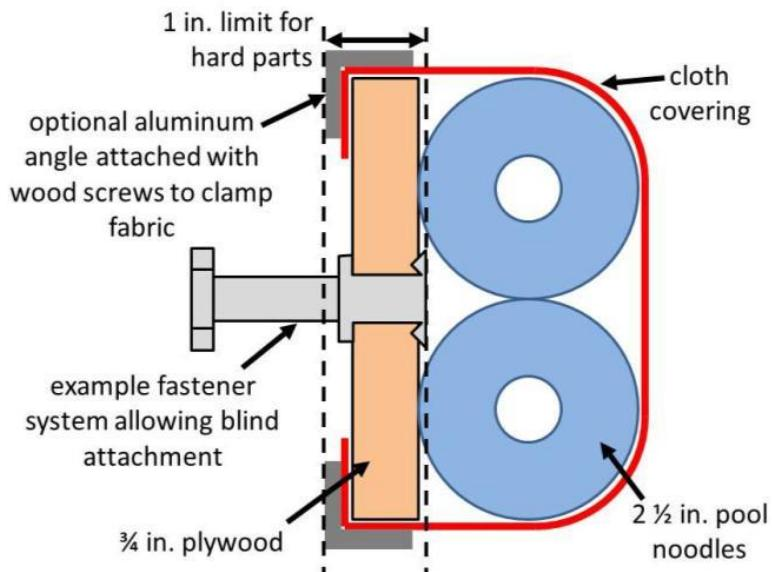
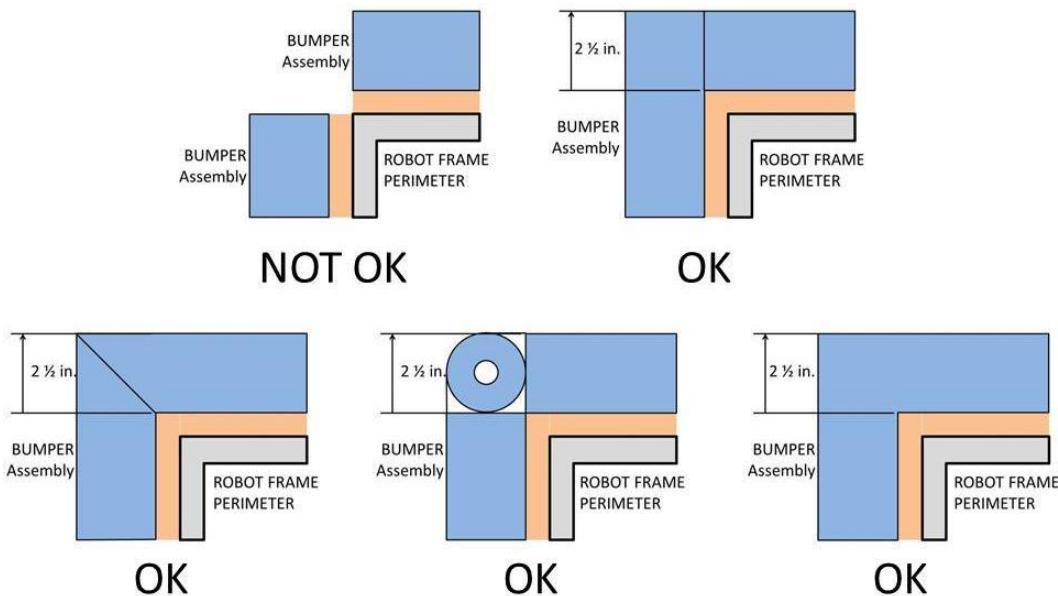

Figure 10-6 BUMPER Vertical Cross Section
Figure 10-7 Soft Parts of BUMPER Corners
**R31.** BUMPERS must be constructed as follows (see Figure 10-6):
- C. use a stacked pair of approximately  $2\frac{1}{2}$  in. (nominal) round, petal, or hex "pool noodles" (solid or hollow) as the BUMPER cushion material (see Figure 10-6). All pool noodles used in a BUMPER set (e.g. Red set of BUMPERS) may not be deformed and must be the same diameter, cross-section, and density (e.g. all round hollow or all hex solid). Cushion material may extend up to  $2\frac{1}{2}$  in. ( $\sim 63$  mm) beyond the end of the plywood (see Figure 10-7). To assist in applying the fabric covering, soft fasteners may be used to attach the pool noodles to the wood backing, so long as the cross section in Figure 10-6 is not significantly altered (e.g. tape compressing the pool noodles).
- D. be covered with a rugged, smooth cloth. (multiple layers of cloth and seams are permitted if needed to accommodate R28, provided the cross section in Figure 10-6 is not significantly altered).
- E. optionally use metal angle, as shown in Figure 10-6 or other fasteners (e.g. staples, screws, etc.) to clamp cloth.
**R32.** Corner joints between BUMPERS must be filled with pool noodle material. Examples of implementation are shown in Figure 10-7.